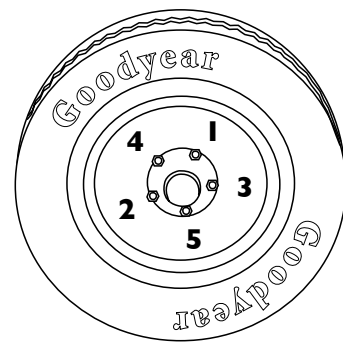

Fig 16. Wheel Lug Nuts Tightening Sequence
2. Torque all lug nuts in sequence (Figure 16). **DO NOT** torque the wheel lug nuts all the way down.